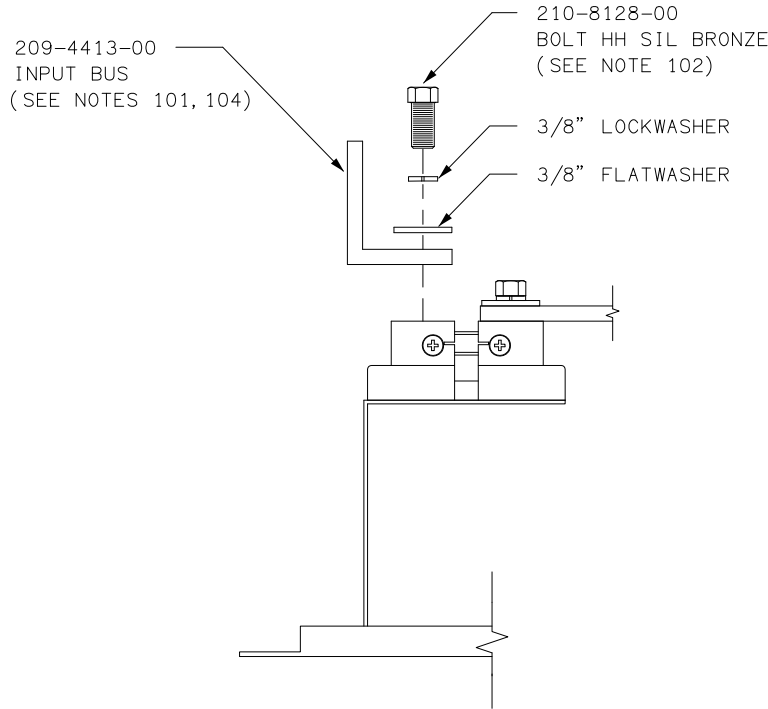

FIG 1
A. LOCATE THE INPUT BUS BAR, P/N 209-4413-00 (SHORT "L" SHAPED BUS). SEE FIGURE 1.